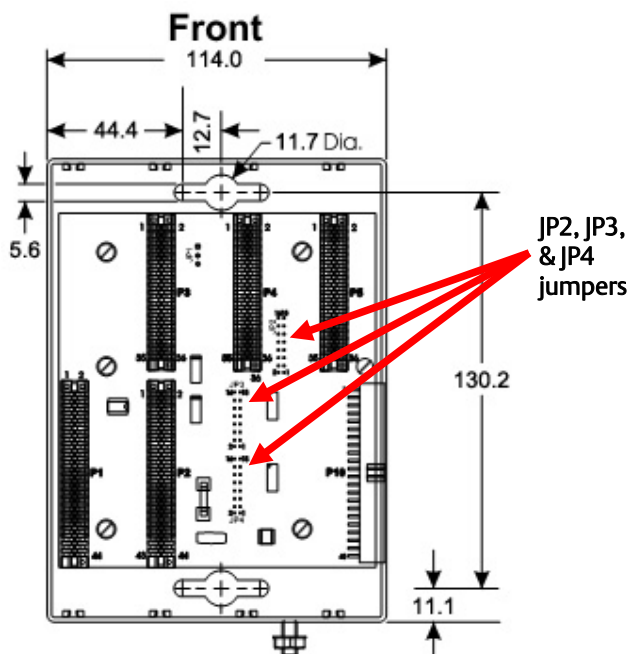

Figure 2. ControlWave Micro 4-Slot Base Housing Dimensions (in millimeters)
- **Base housing.** Position as desired on the enclosure mounting plate and locate mounting holes on the plate using the ControlWave Micro as a template. See *Figure 2* for dimensions. Drill and tap mounting holes in the plate. Position the ControlWave Micro over the tapped locations and attach to the plate with four screws (not provided). Torque the screws to approximately 1.1 to 1.4 N-m.
Note: If you are attaching an expansion housing to a 4-slot or 8-slot base housing, remove the three bus terminators (JP2, JP3, and JP4, shown on *Figure 2*) from the backplane of the 4-slot or 8-slot base housing.
Base housings have a ground lug (see *Figure 2*) that accommodates up to 5.19 mm (4 AWG) wire size. After you install the base and any expansion housings and **before** you install any modules in the base or expansion housings, you **must** run a ground wire between the base housing ground lug and a known good earth ground. All earth grounds must have an